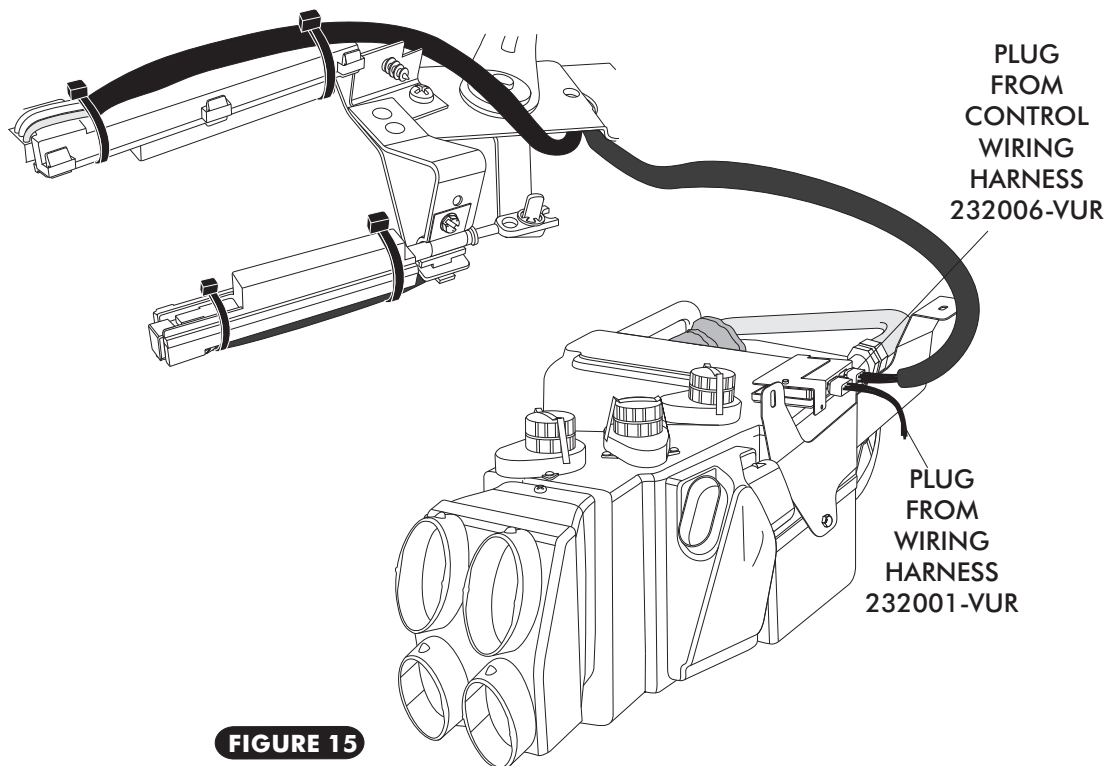

FIGURE 15
- ❑ PLUG THE WIRING HARNESS INTO THE ECU MODULE ON SUB CASE. SEE FIGURE 15 BELOW.